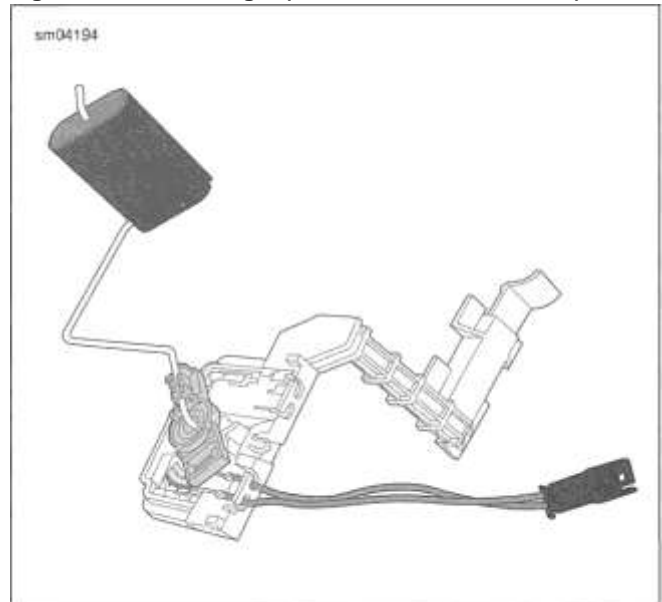

Figure 6-16. Fuel Level Sender
3. Remove fuel level sender from left side of fuel tank. See Figure 6-16.